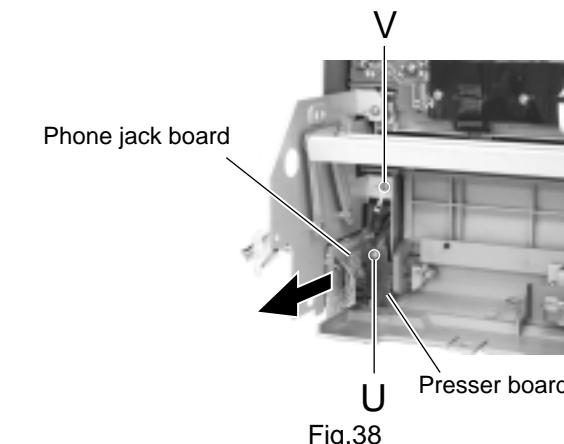

Fig.38
■ Removing the phone jack board (See Fig.38)